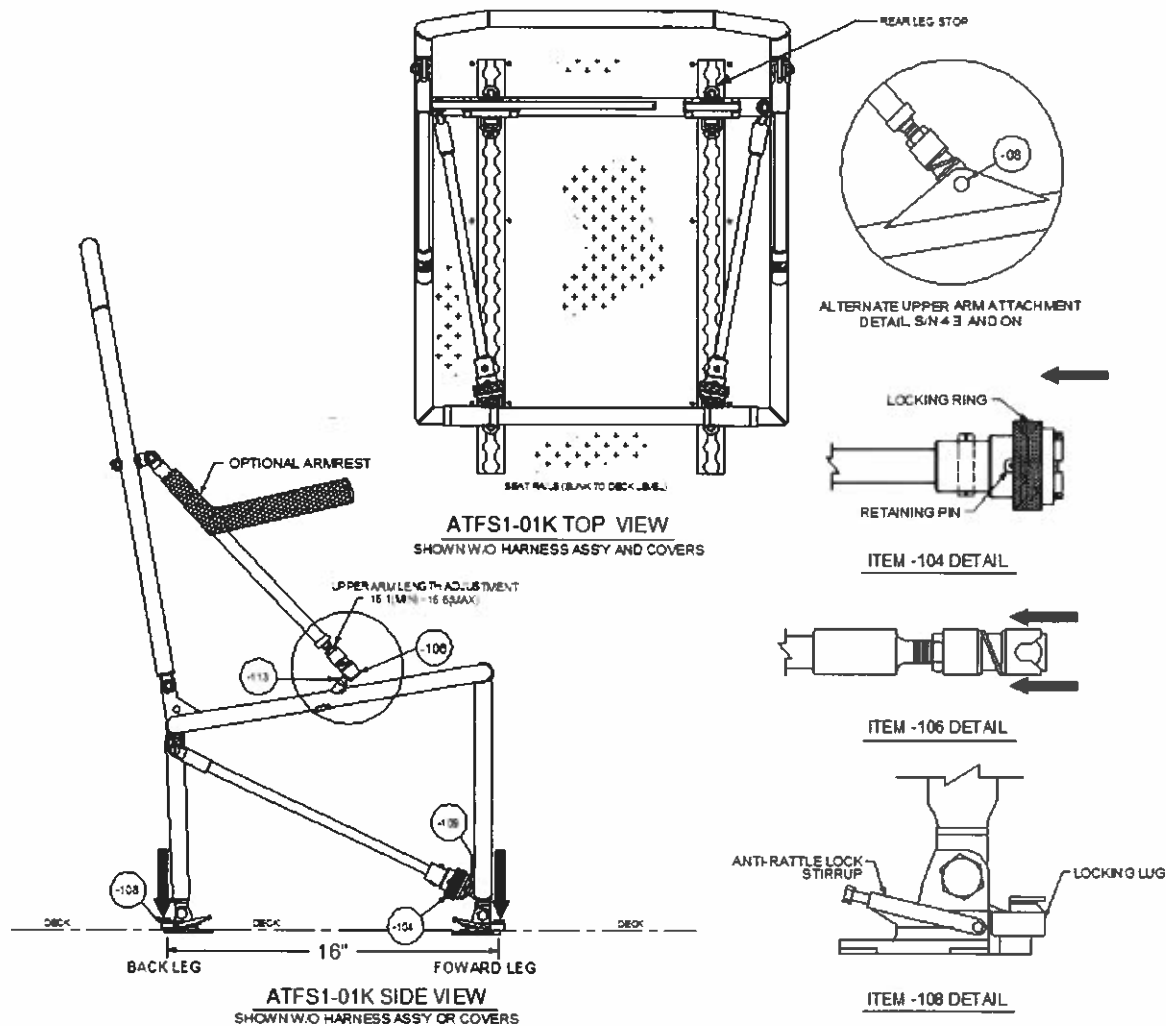

Figure 1.2.1 Seat Installation
1. Unfold forward leg and lower diagonal arms. On each quick-release fitting (item -104), push in the retaining pin and retract the locking ring (see detail in Figure 1.2.1). Position the diagonal arms to align fittings with studs (item -109) on forward leg. Push forward leg back to engage studs in fittings, then extend locking rings to close jaws.